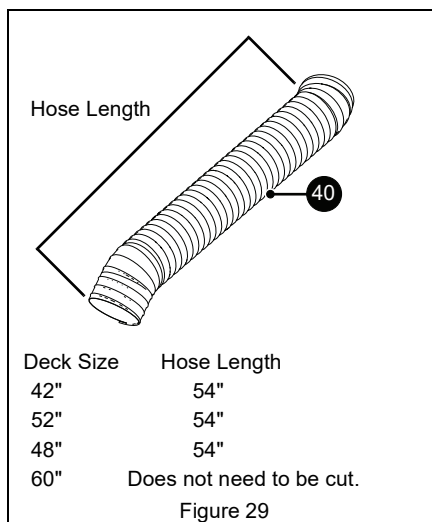

Figure 29
1. Position bagger hose (item 40) and cut to length if specified in Figure 29.